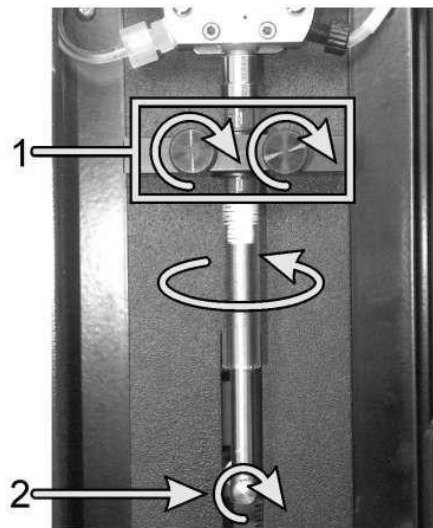

Figure 12.14: Replace the syringe with clamping screw (1) and plunger screw (2)
6. Push the glass tube upward to fix it on the syringe valve, and at the same time turn it one circle in the direction shown in Figure 12.14. Do not use any tools to secure or reinforce the syringe. The connection must be tight or air will seep into the system.
7. Tighten the two clamping screws (see 1 in Figure 12.14) to secure the syringe tube. The syringe clamp should be about 10 mm away from the metal end cover.
8. Hand-tighten the plunger-to-arm screw (see 2 in Figure 12.14).